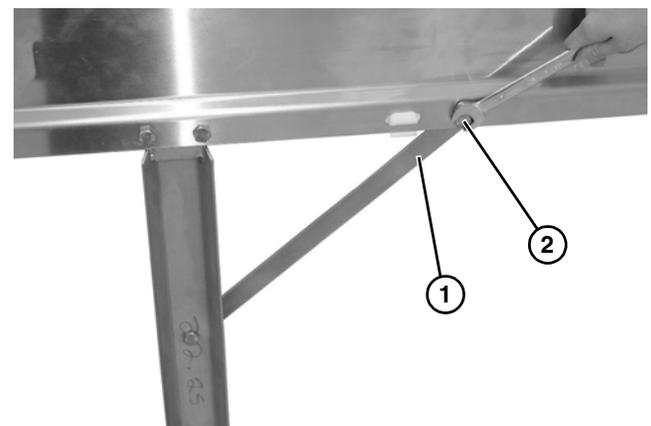

Figure 15
3. Attach the end of brace with threaded hole (Figure 15, item 1) to the conveyor with hex head bolt (Figure 15, item 2).